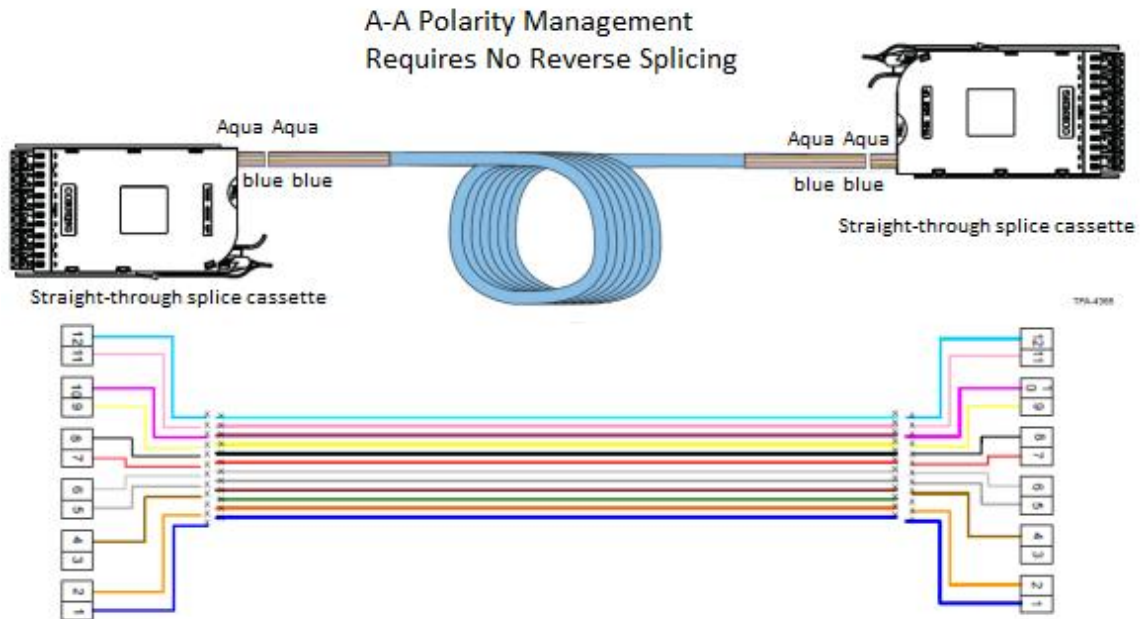

Figure 2: Straight-Through Wiring Scheme – Splice Cassettes on Both Ends
- 3.1.1.3 The cassette with straight-through wiring shall have polarity-managed fiber routing as shown in Figure 2.
- 3.1.1.4 For A-to-A polarity management with straight-through splice cassettes, both ends (cassettes) shall be spliced to the cable blue to blue / aqua to aqua (see Figure 2).